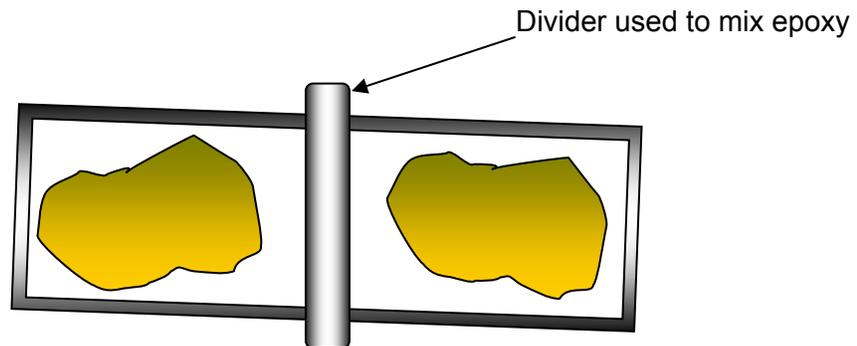

Figure 7-25 – Mixing the EPO_TEK 353ND Epoxy
Note: The oven shown in Figure 7-25 is from the manufacturer of the 801 Terminus. This oven is set to cure the EPO-TEK 353ND epoxy at 90°C -2° /+5°C. The terminus is cured in the oven for twenty (20) minutes. Other epoxy cure ovens may be used as long as they meet the temperature requirements of 90°C -2° /+5°C. Some harsh environments on the aircraft (landing gear, engine compartments or unpressurized areas) may require the use of a programmable oven which cures the epoxy at different temperature levels with varying ramp and soak times. Refer to the manufacturers procedures when using a programmable oven.
Step 2 - Remove the divider from a 2-part EPO -TEK 353ND epoxy package and slowly mix the two parts together until the epoxy is a smooth uniform color. The epoxy can be mixed by either repeatedly rolling the divider over the package or gently sliding the divider over the package. See Figure 7-25.